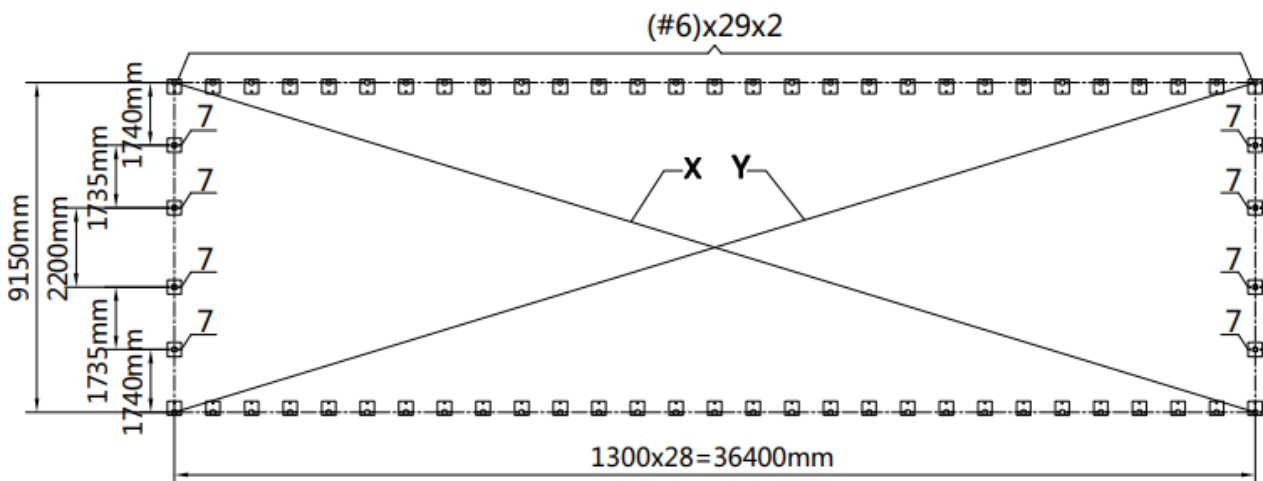

Figure 1
- Base plates: all base plates must be installed firmly with expansion bolts (#6A) on this step (refer to figure 1).
- (58) Base plate (#6)